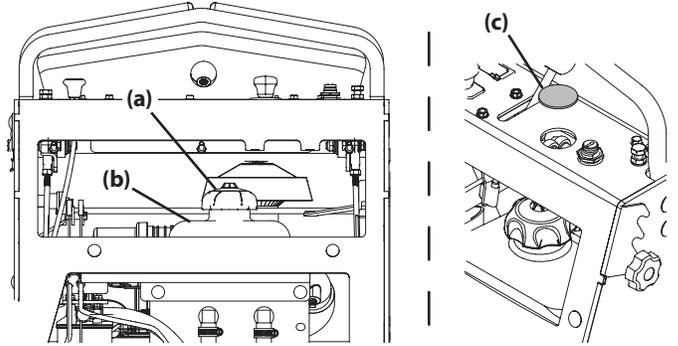

Figure 28
- Mowers with 48, 54 or 60 inch Mowing Decks Only: Insert a funnel into the reservoir (b). (Figure 28).
- Remove the black cap (c) from the control panel by reaching under the panel and squeezing the two tabs and pushing up (Figure 28).